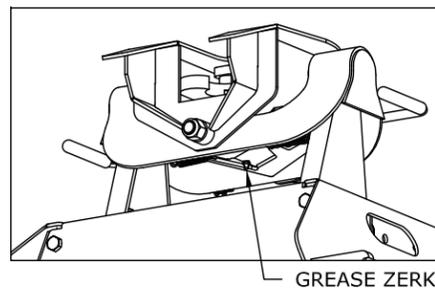

FIGURE 6.2. VIEW UNDER SADDLE.
- Grease the saddle through the grease zerk approximately every six months with multi-purpose grease. this allows the coupler to pivot freely, see figure 6.2.